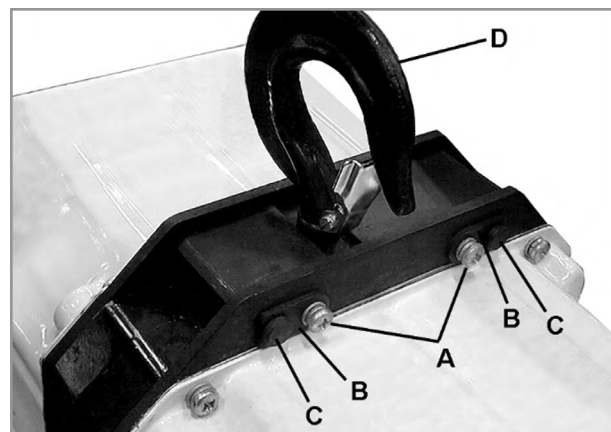

Figure 1
1. Remove the two screws, lock washers and flat washers (A, Figure 1), the hook-pin plates (B) and the hook pins (C).
2. Place the top hook assembly (D) into position between the body plates, and re-install pins, hook-pin plates, screws, and washers. Firmly tighten the screws.